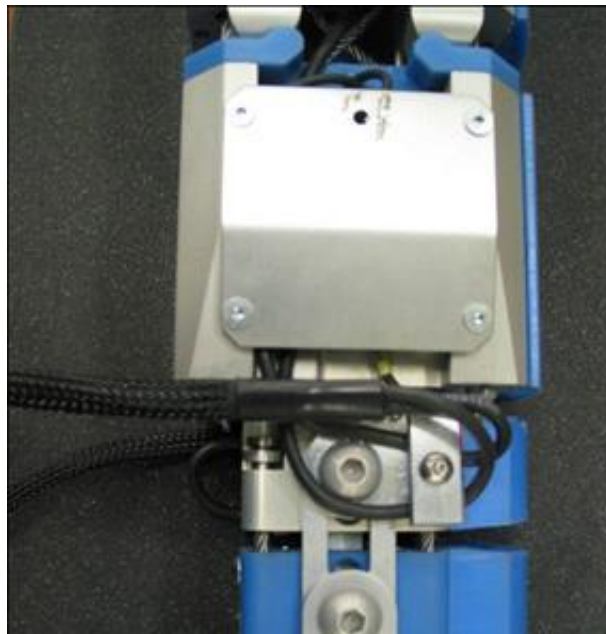
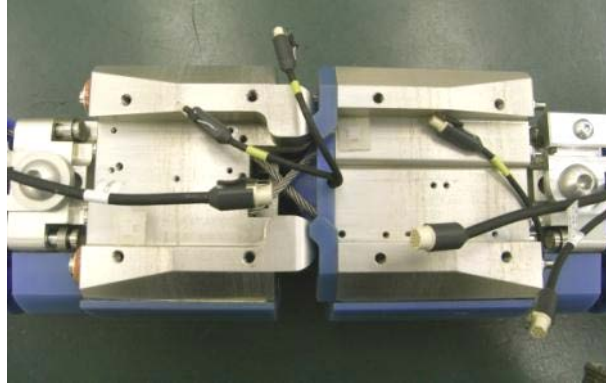

Figure 17 . Clamping Arrangement and Position for Off board Wires
Figure 18 . Off Board wiring left hand side of impact face
For off board DAS umbilical cables of 10m long exit the leg just below the knee. This position is close to the CG of the leg to minimize the mass affect from the cables in free flight. The cables are clamped to the leg via the top shoulder link bolts of the tibia to provide restraint protection to the connectors see Figure 17. If off board cables are not used the clamps should be replaced with washer 133-5105 item 16 in Figure 66. See Figure 18 for left hand side wiring arrangement. The connectors at the off board DAS side are specified by the customer and fitted by Humanetics as all users have different systems.
It is important to route the off board cables out of the knee to ensure good free flight to the target. See Figure 17 for an example. Users can establish their own wire routing but the important issues to note are that both sides are balanced and there is no restriction at release from the pusher plate when fired.